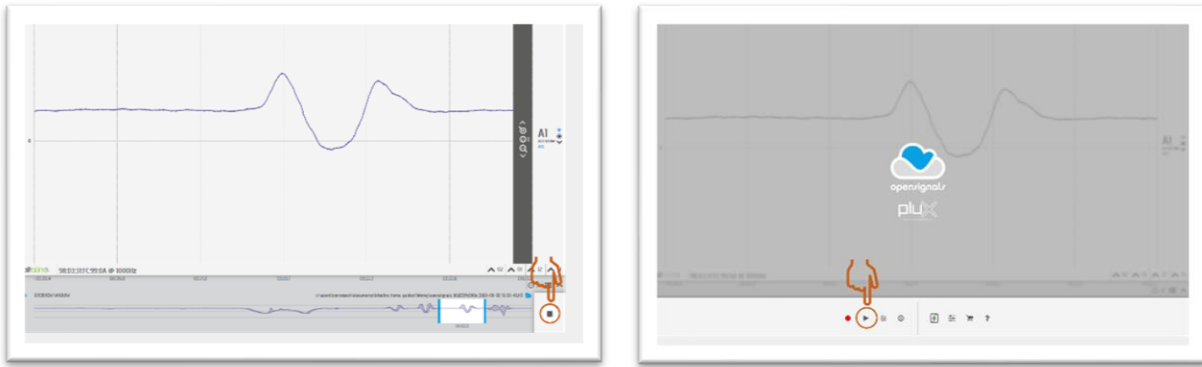

Figure 8: Signal Acquisition (Example of ACC signal): Stop the signal acquisition (left) and examine the stored signal after acquisition (right).
- 5 Stop the recording and save your data (Figure 8).
- ✓ You can review your recorded data directly on OpenSignals (r)evolution through the PLAYBACK option as shown in Figure 8, right. Refer to the user manual for additional information about this option.